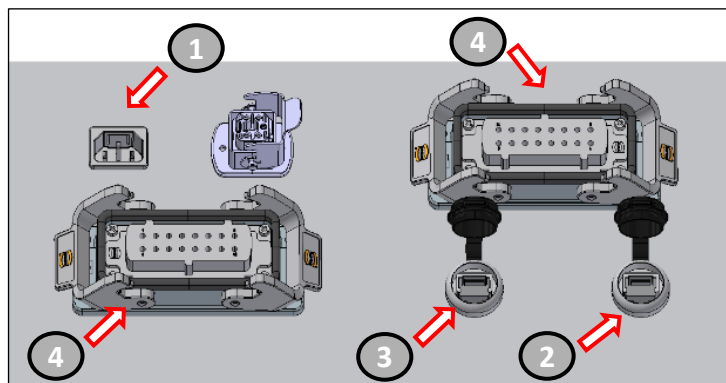

Figure 5-14
NOTE! The USB connector (3) Figure 5-14, is mainly used for the connecting motion controller to the PC for diagnostic and firmware updates.